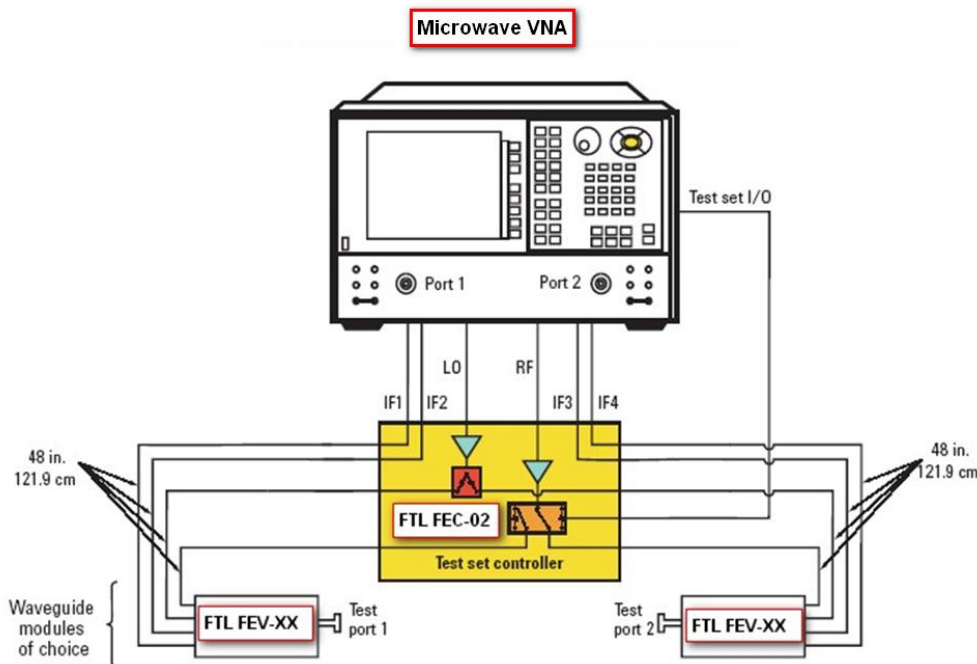

Figure 11. Vector network analyzer operating with FTL frequency extenders - block diagram.
Farran Technology currently supplies frequency extension modules for VNA applications (FEVs) in a range of 40 to 325 GHz that are external to the VNA instruments. These modules operate based on phase and amplitude up and down conversion and operate seamlessly with all major vector network analyzers. The setup relies on the internal firmware configuration of the VNA which defines RF, LO and IF signal frequencies to and from the extension heads. The modules effectively multiply the existing RF range capabilities of the network analyzers allowing for measurements taken at mm-wave frequencies and downconverting the results to the intermediate frequency (IF) that are supplied back to analyzer for its own RF conditioning and post processing. The front panel of the VNA working at mm-wave band reflects the frequency of operation of the DUT with no need for further user frequency scaling. That way the analyzer microwave functionality is available at the mm-wave range and that includes the setup, calibration and measurements. A typical mm-wave system setup is shown in Figure 11: